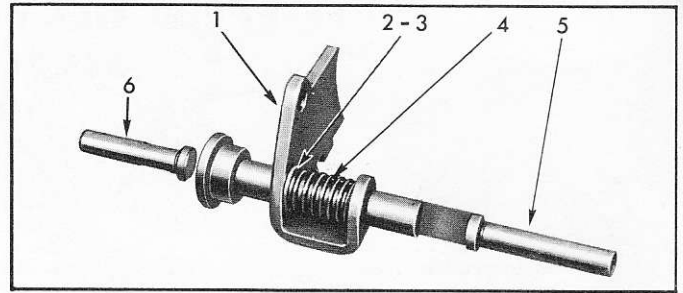

Fig. 17B—Shift Rail, Plunger, Fork and Spring Assembly
7. When shift rail, fork and spring are assembled, make sure the parts bear the correct relationship as shown in Figure 17B, with snap ring inside cupped washer.
| 1. Transmission Mainshaft            | 15. Shift Rail Collar Snap Ring    | 26. Shift Rail Assembly (Also see Fig. 17B) | 38. Bearing Snap Ring                   |